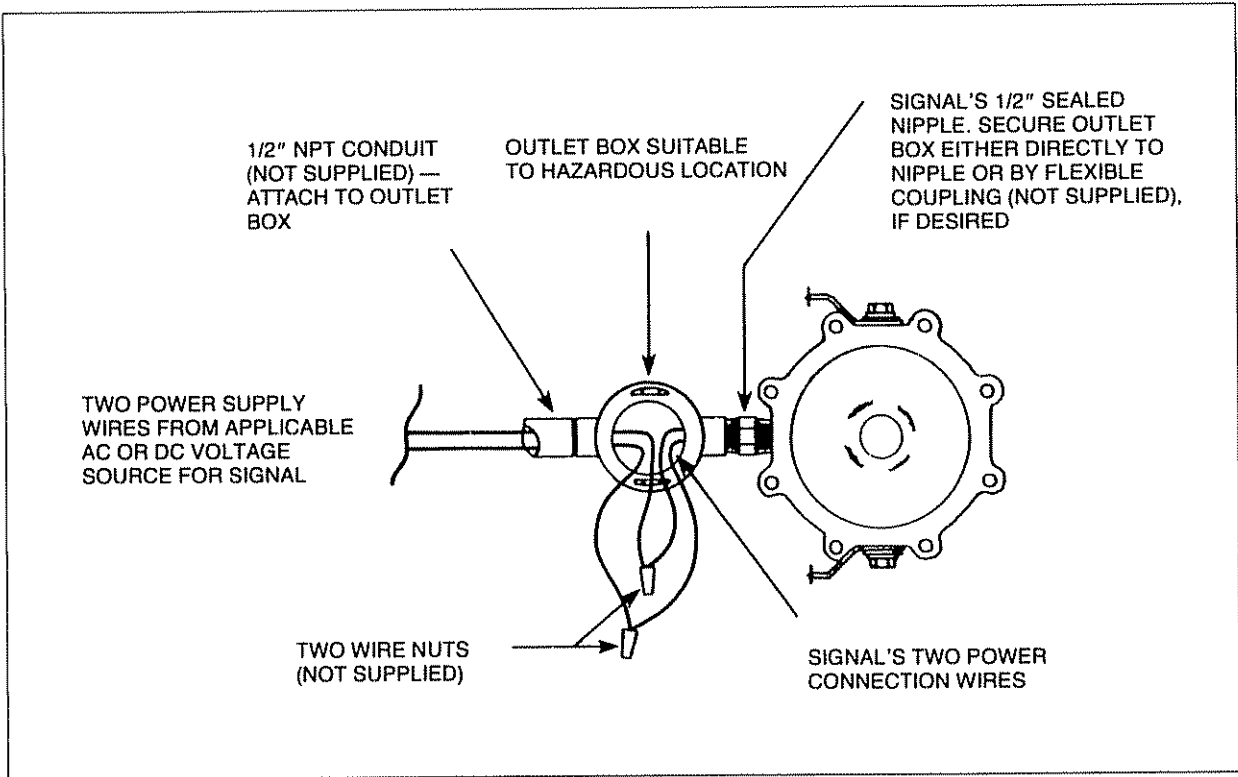

Figure 2. Wiring Installation and Connections
**5. Install Wires.** See Figure 2. Remove cover from the conduit outlet box (not supplied). Note that the outlet box must be suitable for use in the hazardous location. Feed the two power supply wires through the 1/2" NPT conduit (not supplied) into the outlet box. Also, feed the signal's two power connection wires either directly into the outlet box or, if desired, through a 1/2" flexible type coupling (not supplied) and then into box. Secure outlet box to signal's 1/2" sealed nipple, and secure conduit to outlet box.
**6. Connect Wires.** See Figure 2. Connect the power supply wires to the signal wires using two wire nuts (not supplied). Polarity need not be observed when making connections for a DC voltage source. Replace cover securely on conduit outlet box.